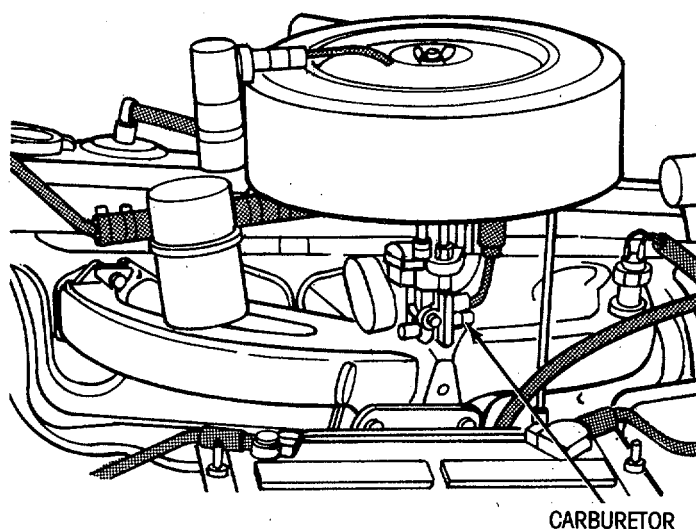

Figure 1-2. Left Side View of Engine
**1-11. ENGINE.** The tractor engine is a Chrysler Model H-225 (figure 1-2). This engine is a six-cylinder valve-in-head, four-cycle gasoline-burning type, liquid cooled and pressure lubricated. It features a forged steel balanced crankshaft, forged steel connecting rods, replaceable bearings, and splash-lubricated pistons each with three piston rings. Many parts of the engine are super-finished to provide the maximum in wear-resisting, load-carrying properties in the bearing surfaces. Crankcase ventilation is employed on the vehicles.
**1-16. CARBURETOR.** The engine is equipped with a downdraft carburetor (figure 1-2). Fuel is supplied through separate circuits in the carburetor for varying requirements of idling, part throttle operation, acceleration and wide open throttle operation. The carburetor is connected through linkage to the pedal type accelerator at the operator's position. A manual choke is also provided on the instrument panel and is connected to the carburetor through wire linkage.
**1-17. AIR CLEANER.** The air cleaner (figure 1-2) is a dry element type. It is designed to prevent the entry of dirt and other foreign materials into the engine through the carburetor on which it is mounted.
**1-24. ALTERNATOR.** Electrical power is supplied by an alternator (figure 1-2) controlled by the regulator. The alternator is mounted on the left front of the engine on an adjustable bracket and is driven by a belt operating from an engine driven sheave. Rotation is counterclockwise as viewed from the drivers seat. The alternator produces power in the form of three-phase alternating current and voltage, which is rectified to direct current by a full-wave rectifier bridge using six diodes. Since the diodes will allow current to flow in only one direction, the alternator does not require a cutout relay.